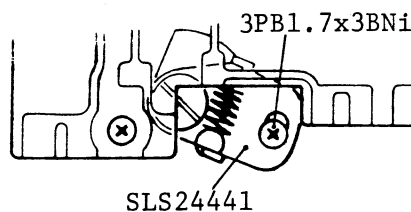

Fig. 69
- 1) After loosening a 3PB1.7x3BNi Screw, adjustment is made by moving the SLS24441 Adjusting plate as shown in Fig.69.